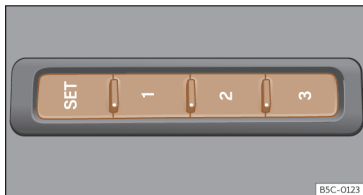

Fig. 90 On the outer side of the driver's seat: memory buttons.
- Press **SET** for longer than 1 second >>> **Fig. 90**.